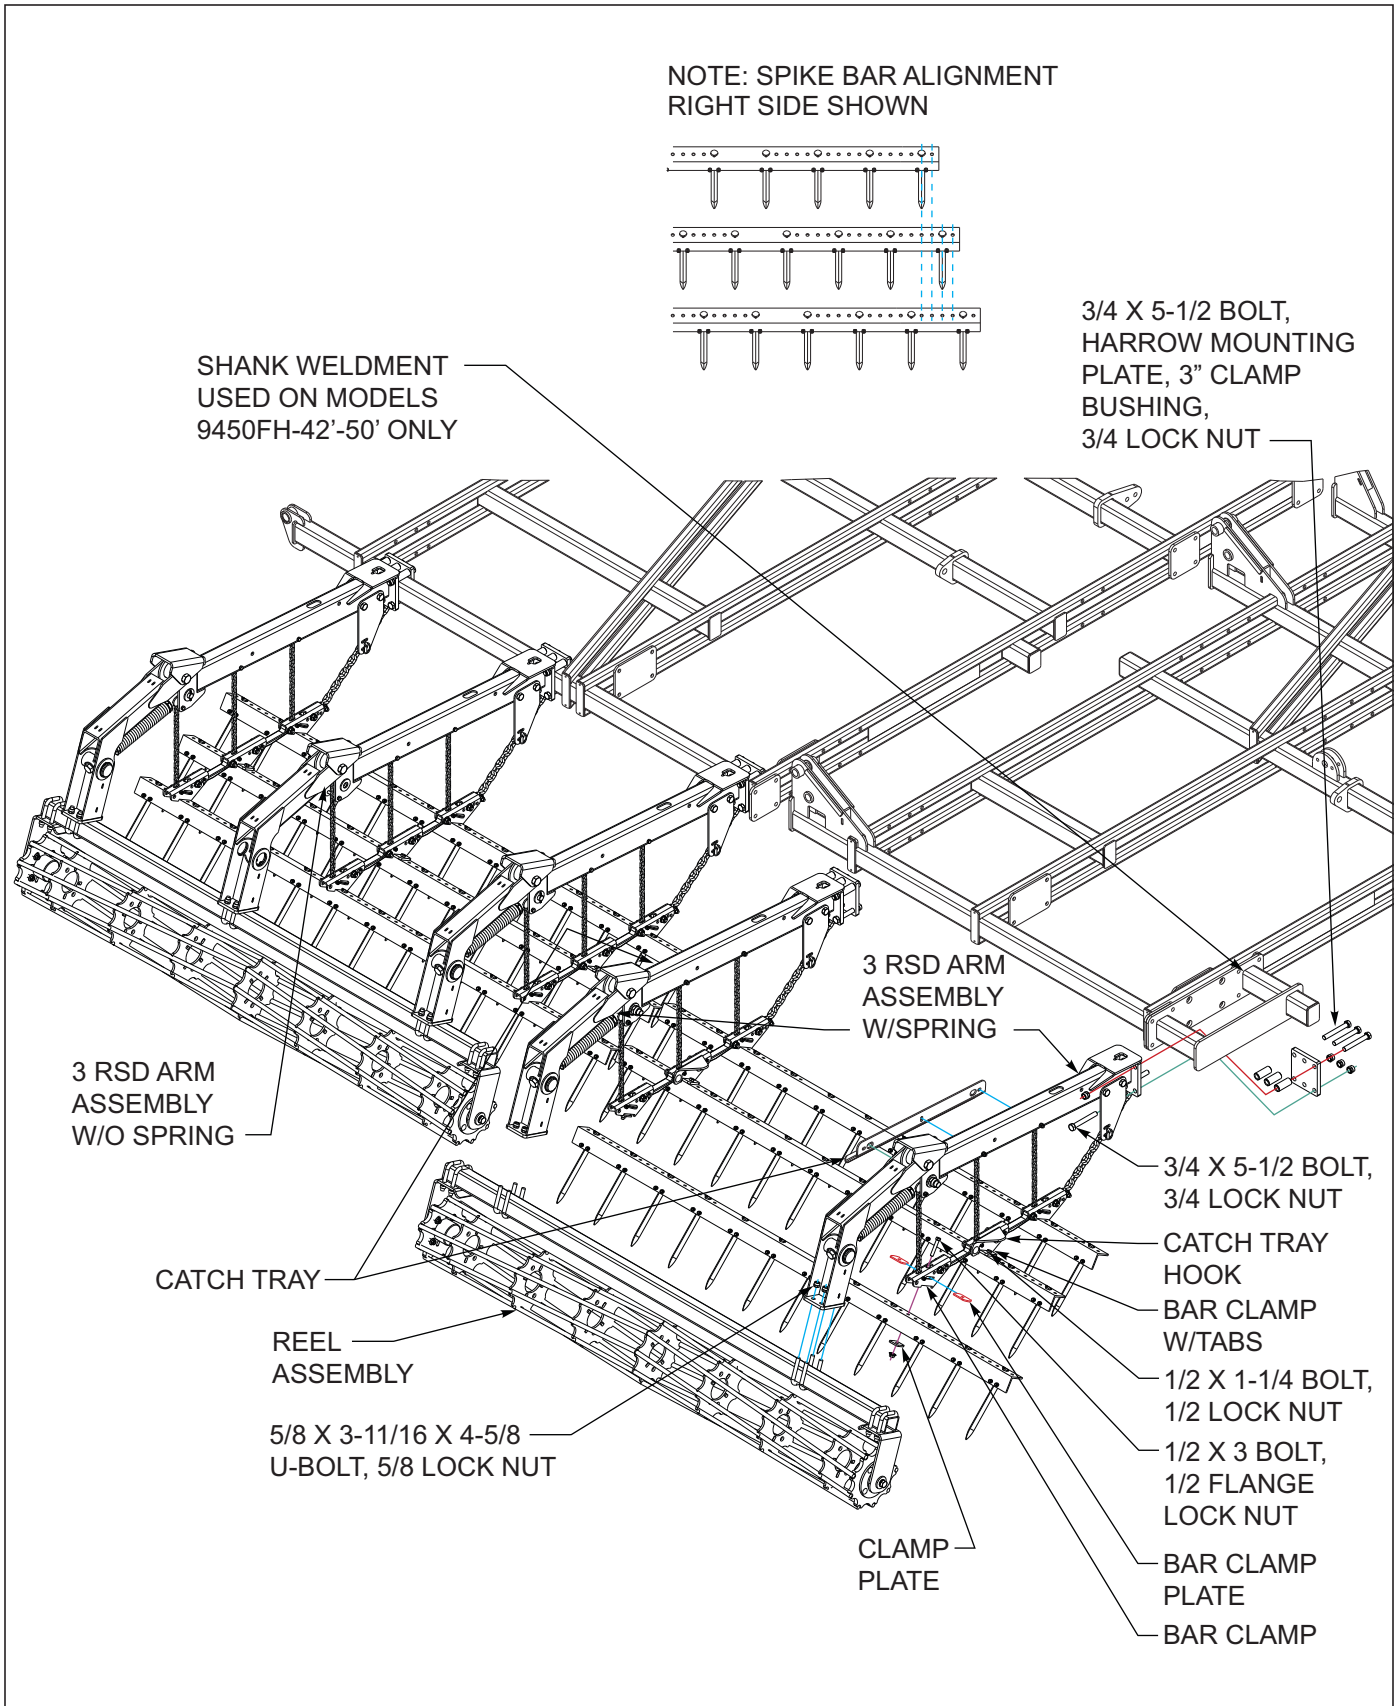

Figure 3-30: 3 Row Spike Harrow and Reel Installation
1. Attach the 3 RSD w/spring and 3 RSD w/o spring (Models 9450FH-38'-42' only) arm assemblies to the rear tube of the center and wing frames using harrow mounting plates, 3/4-10x5-1/2 hex screws, clamp bushings and 3/4-10 lock hex nut **See Figure 3-30**.
3. Refer to Note: spike bar alignment **See Figures 3-30** for proper alignment of spike bar assemblies. Be sure they are aligned properly on both right and left side of each section.
1. Attach the 2RSD arm assemblies to the rear tube of the center and wing frames using harrow mounting plates, 3/4-10x5-1/2 hex screws, clamp bushings and 3/4-10 lock hex nut See Figure 3-30.